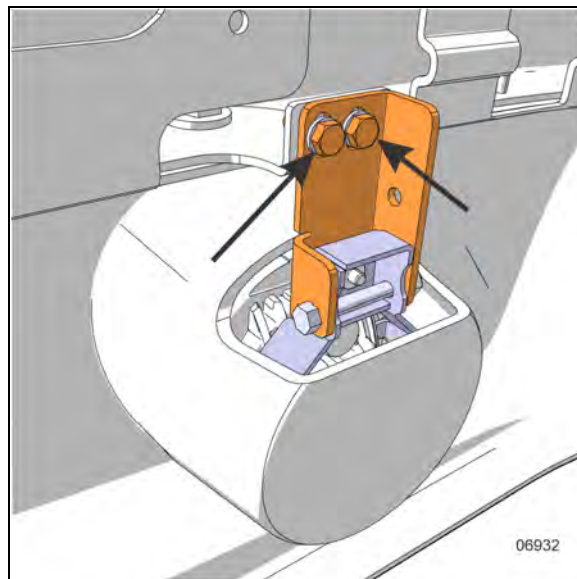

**FIGURE 100: FOG LIGHT INSTALLATION**
9. Secure the wiring with a cable tie as shown in Figure 100.